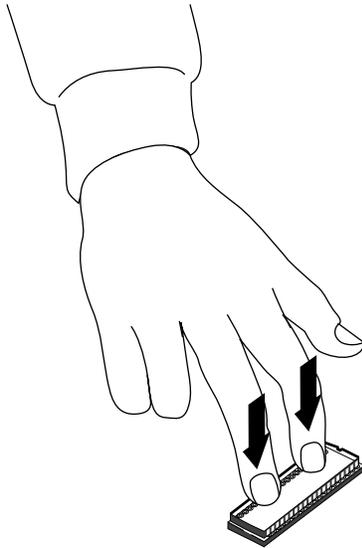

Figure 1-16 Pressing the PROM Chip into the Socket
4. Once the pins are lined up, press down firmly on the top of the PROM chip until it is seated in the socket, as shown in Figure 1-16.